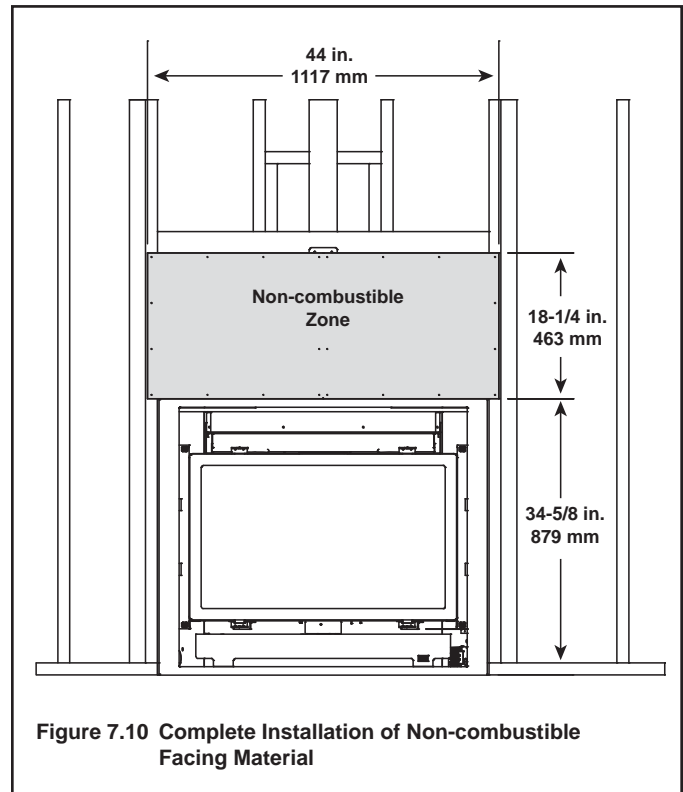

Figure 7.10 Complete Installation of Non-combustible Facing Material
- Center and attach two top boards to the framing members. See Figure 7.10.